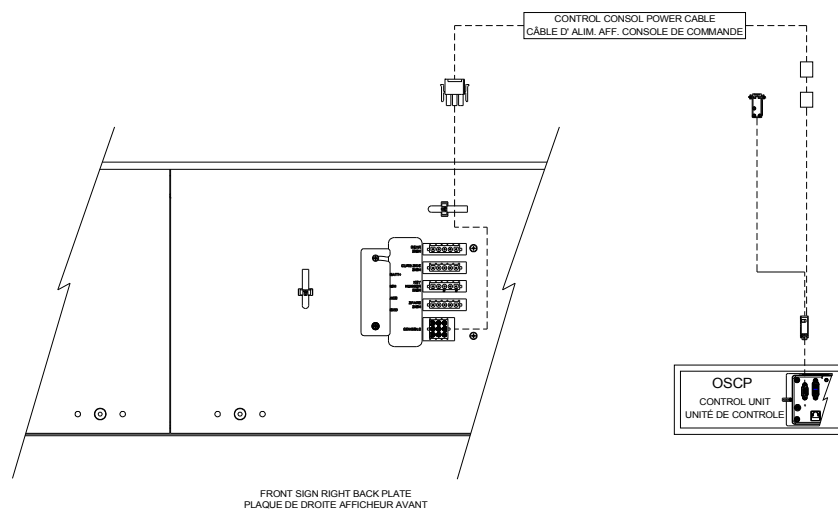

Figure 9: OSCP Communication Cable Connection
- Connect the first end of the OSCP power cable (15-pin connector) to the OSCP OSCP2 connector. (See Figure 9)